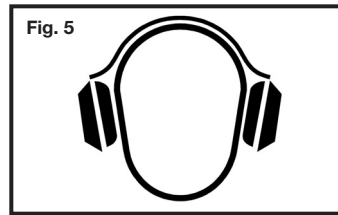

Fig. 5
7. Wear ear protection to safe-guard against possible hearing loss. Ear protection equipment must conform to ANSI S3.19 requirements. Fig. 5.